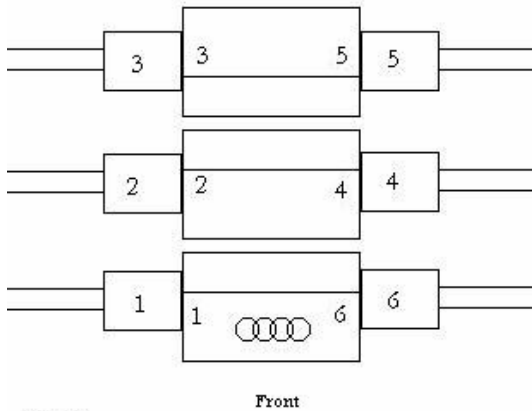

Figure 1
1. Label and remove coil pack wires as shown in figures 1 and 2
Figure 1 shows the coil pack as seen from the front of the automobile. Be sure to label both the wires and the coil boxes.
2. **Figure 1 shows** (100,A6 fuel rail) Mount fuel rail to Supercharger assembly, using four (4) Philips head screws.